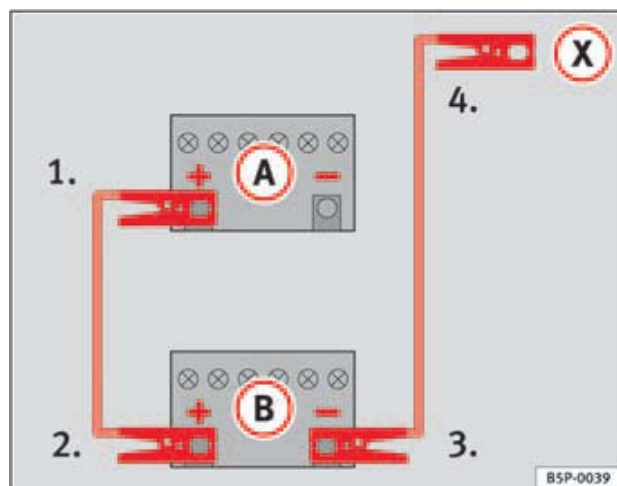

Fig. 180 How to connect the jump leads
In \Rightarrow fig. 180, the flat battery is **A** and the charged battery **B**.
- 1. Connect one end of the red jump lead to the positive \Rightarrow fig. 180 terminal of the vehicle with the flat battery \Rightarrow .